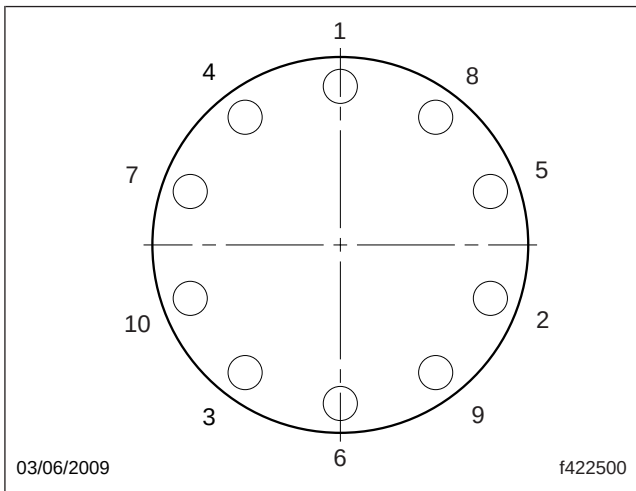

Fig. 3, Tightening Sequence
2. If replacing the rotor, position the new rotor on the hub, and install the capscrews. See Fig. 1 for front axles, or Fig. 2 for rear axles. Tighten 190 to 210 lbf·ft (258 to 285 N·m) using the sequence shown in Fig. 3.